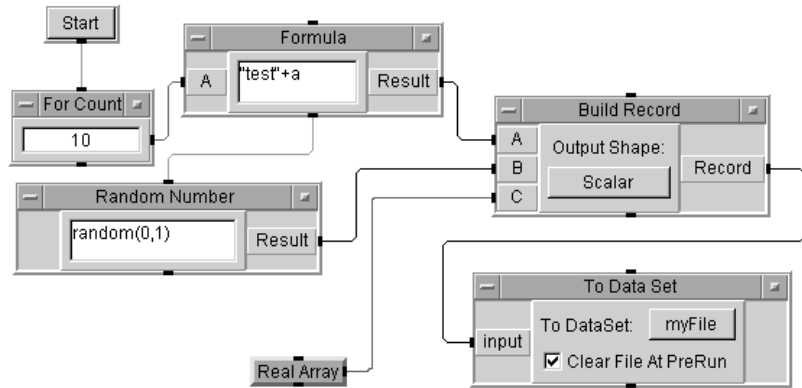

Figure 139 Storing an Array of Records in a DataSet
- 8 Run the program. It should put an array of ten records into the DataSet called **myFile**, as shown in Figure 139.